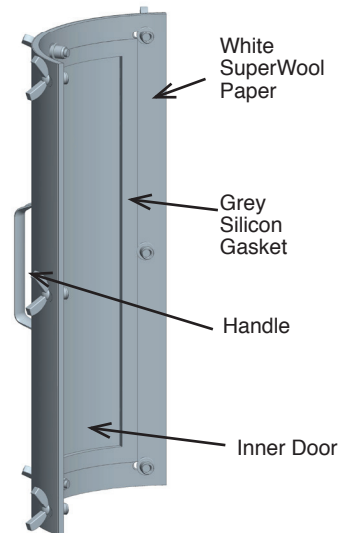

Figure 88: Step 6 of Removal for Inspection for the ADL
- 6- Inspect the ceramic gasket (white) and the silicone gasket (gray) attached on the inside of the Inner door for any damage (see Figure 88). If any damages, you must replace one or both gaskets. See Figure 88